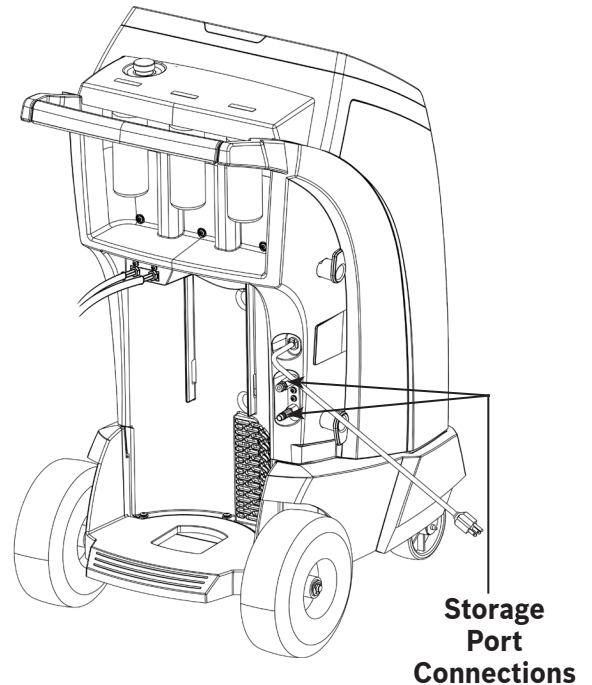

Figure 6
2. Connect the service hoses to the machine's storage port connections as shown in Figure 6.